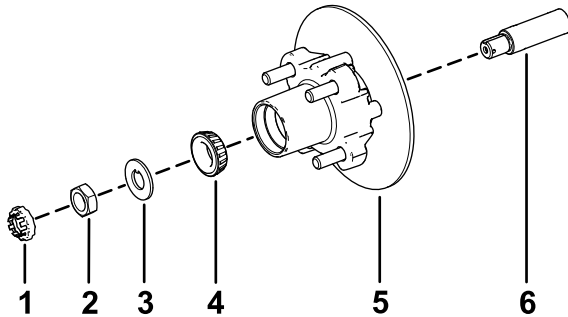

Figure 35
1. Apply a light coat of the specified grease to the spindle (Figure 35).
2. Assemble the hub and rotor onto the spindle with the rotor inboard (Figure 35).
3. Assemble the outboard bearing onto the spindle and seat the bearing to the outboard race (Figure 35).
4. Assemble the tab washer onto the spindle (Figure 35).
5. Thread the spindle nut onto the spindle and tighten the nut to 15 N·m (11 ft-lb), while rotating the hub to seat the bearing (Figure 35).
2. Align the brake pads to either side of the rotor (Figure 31) and the holes in the caliper bracket with the holes in the brake mount of the spindle frame (Figure 35).